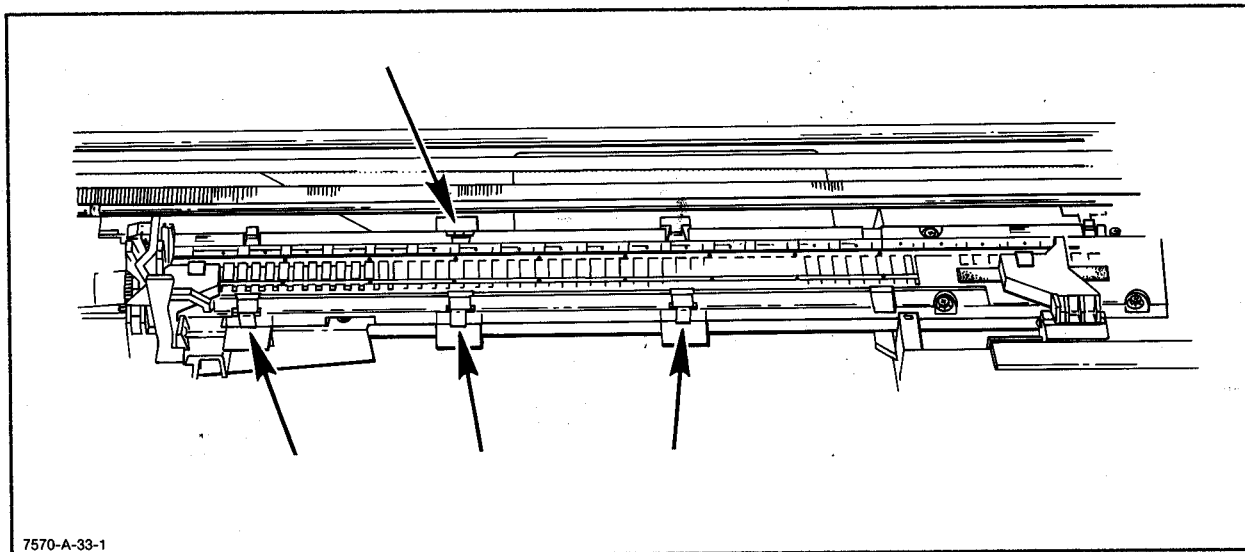

Figure 6-30. Platen Clips
- f. Remove each of the four spring clips from the center platen by squeezing the clip. See Figure 6-30.